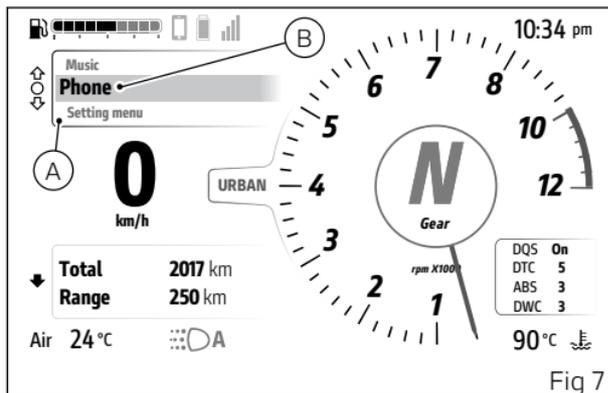

Fig 7
- Select the Interactive Menu (A, Fig 7) by pressing and holding button (1) pressed for a long time.
- Use buttons (1) and (2) to select item "Phone" (B, Fig 7) and press the ENTER button (3).